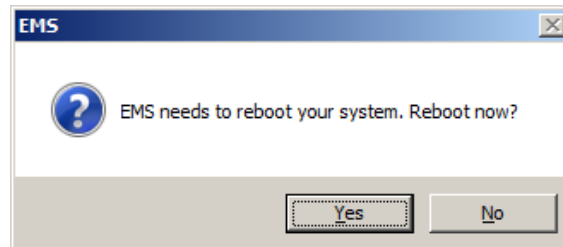

**Figure 63**
- When the Setup has completed, the **EMS Server A Setup - Completed the EMS Server A Setup Wizard** window is displayed. See Figure 63 below: